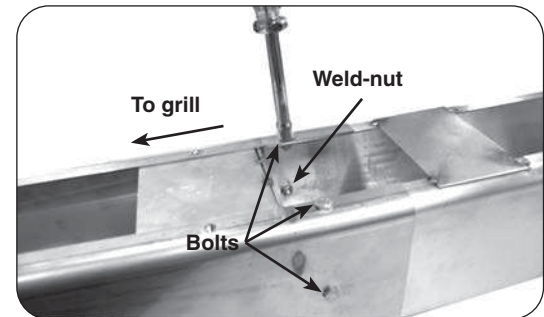

Fig. 18-2 Fasten extension to post
2. From outside the joined post and extension, insert one of the $\frac{1}{4}$ X 20"-5/8 bolts (supplied) into each of the five (5) bolt holes and tighten each using a $\frac{7}{16}$ " socket driver or wrench (see Fig. 18-2).